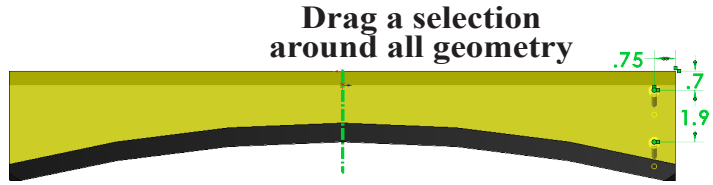

Fig. 31
Step 11. Drag a selection around all geometry as shown in **Fig. 31**.